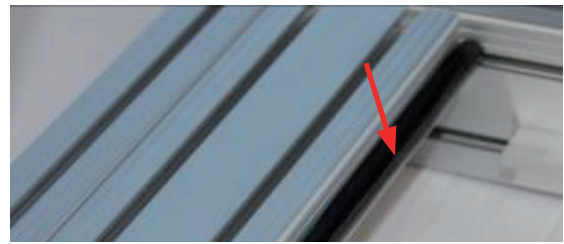

fig. 3.1-13
Step ① Cut the seal rubbers to the length of the frame base profiles **A1c** (418 mm | 16.46 inch) using a cutter and press them into the two lead channels (point inwards) of the frame base profiles **A1c** (fig. 3.1-13). The seal rubbers protect the edges when placing the weights at the rear side.